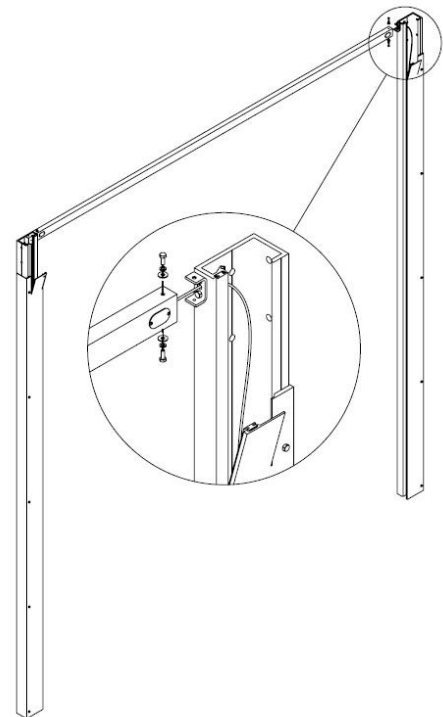

Figure 9
10. Before fastening the spreader bar, run the light curtain wire from the non-drive side to the drive side, and down the side frame. Run the wire through the provided holes with strain reliefs on both side frames and through the center of the spreader bar (Figure 9).
11. Next fasten the spreader bar to both side frames using the brackets and fasteners provided (Figure 9).